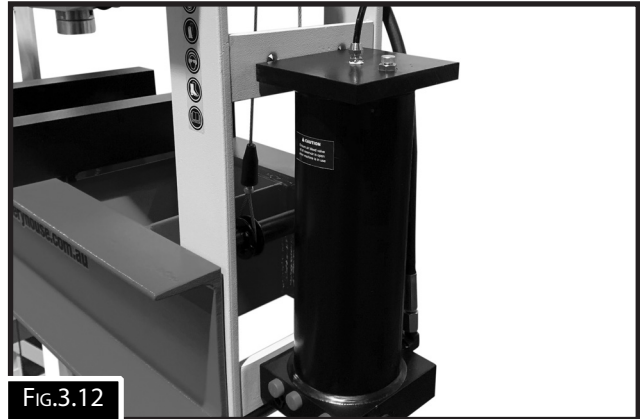

Fig.3.12
1. Attach the hydraulic/air pump to the two brackets on the right hand side of the frame using the bolts and spring washers supplied. Ensure that the hydraulic/air pump is securely installed. (Fig.3.12)